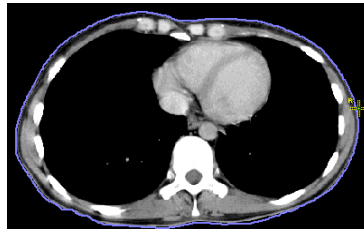

Figure 278 – Defining the right point of the bolus
- The cursor is now marked as **R**. Click the rightmost point of the bolus, as described above for the leftmost point (see Figure 278).